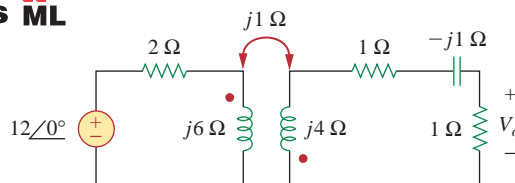

Figure 13.76
- 13.7** For the circuit in Fig. 13.76, find V_o .